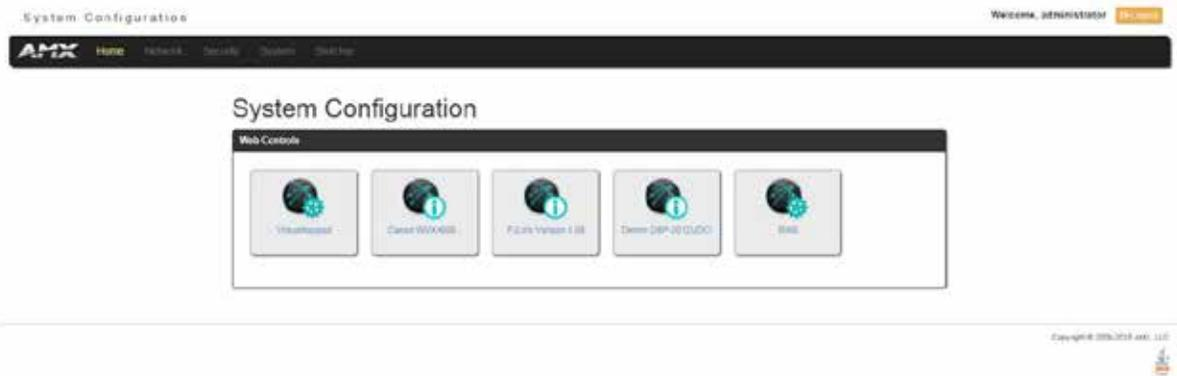

FIG. 61 Main WebControl page
You can access the configuration settings for the Presentation System by using the latest, industry-accepted version of HTML5 web browsers. If a browser is inconsistent, upgrade or try a different browser. The system configuration pages are available by entering the IP address of the NetLinX master into the location bar of your web browser. Entering your IP address into your web browser opens the Main WebControl page (FIG. 61).
2. Enter the IP address of the presentation system in the location bar of the web browser. (If you do not know your device's IP address, see the *Locating the IP Address of the Presentation System* section on page 53.) The Main WebControl page opens (FIG. 61).